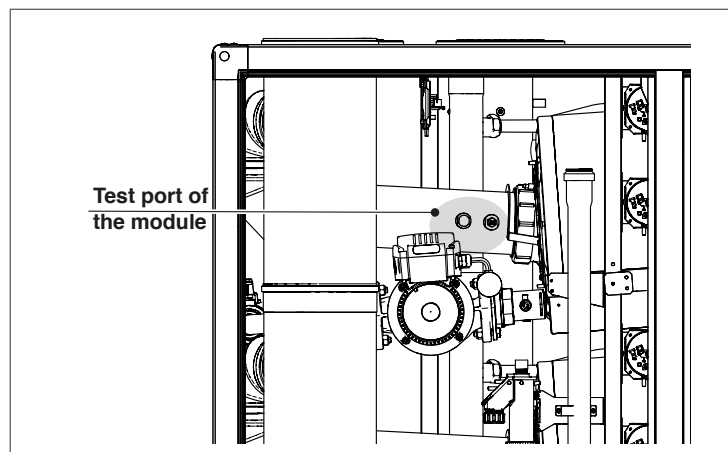

Fig. 17 Test Port for Combustion Analysis (available on each individual heat exchanger)
- Insert a combustion analyzer probe into the test port shown in Fig. 17